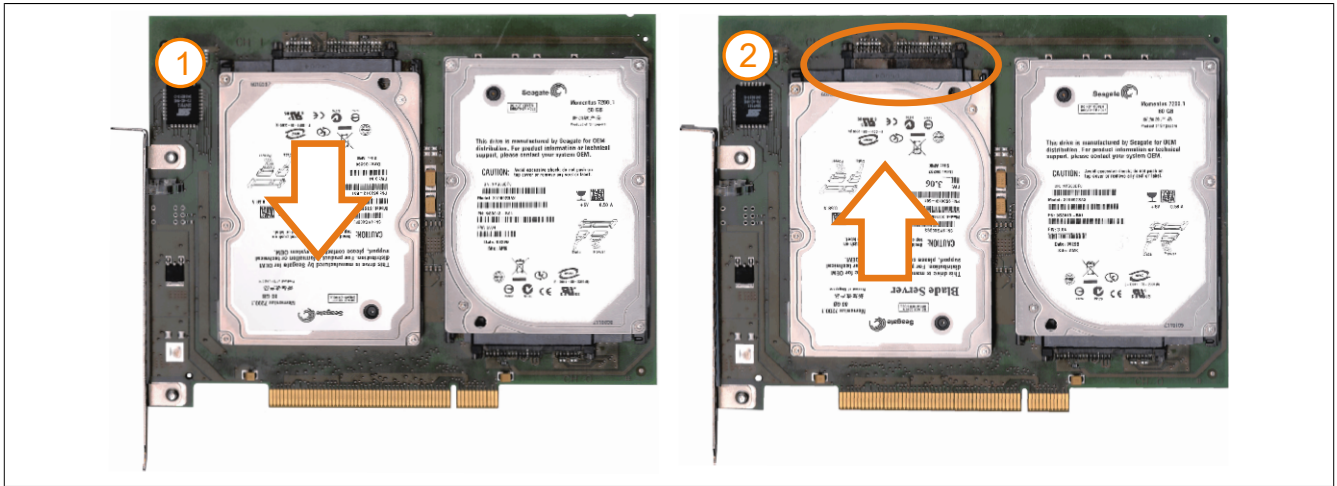

Figure 188: Hard disk exchange
6. On the front side, slide the hard disk down and away (Figure 188: Hard disk exchange - left image).
7. Insert the new hard disk carefully into the connector (Figure 188: Hard disk exchange - right image), being careful to only touch it on the front, and not on the top.